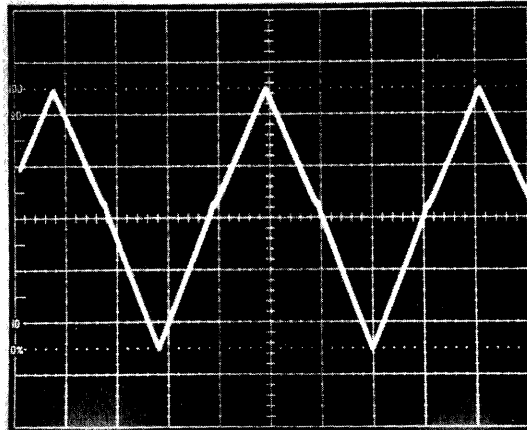

Figure 6.16
6.8.10 Set the scope's vertical control to 1 V/div. Adjust "0"-Pot to make the waveform on the scope symmetrical. See Figure 6.16.